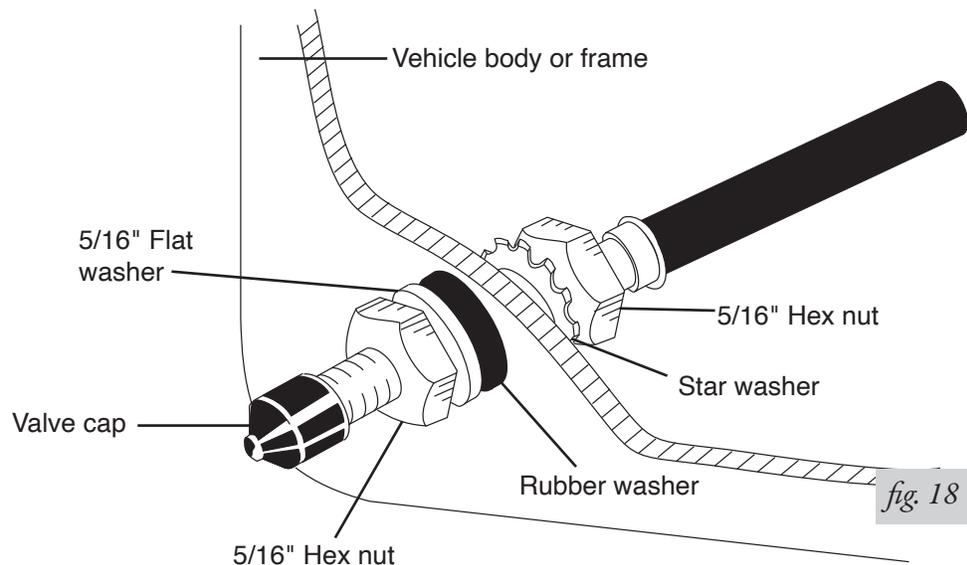

fig. 18
- Place a 5/16" nut and star washer on the air valve. Leave enough of the inflation valve in front of the nut to extend through the hole and have room for the rubber washer, flat washer, and 5/16" nut and cap. There should be enough valve exposed after installation—approximately 1/2"— to easily apply a pressure gauge or an air chuck (fig. 18).
- Push the inflation valve through the hole and use the rubber washer, flat washer, and another 5/16" nut to secure it in place. Tighten the nuts to secure the assembly (fig. 18).